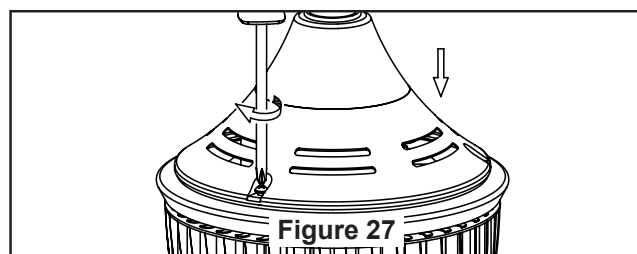

Figure 27
- ☐ 3. Tight the two screws from the motor coupling cover. (Figure 27)